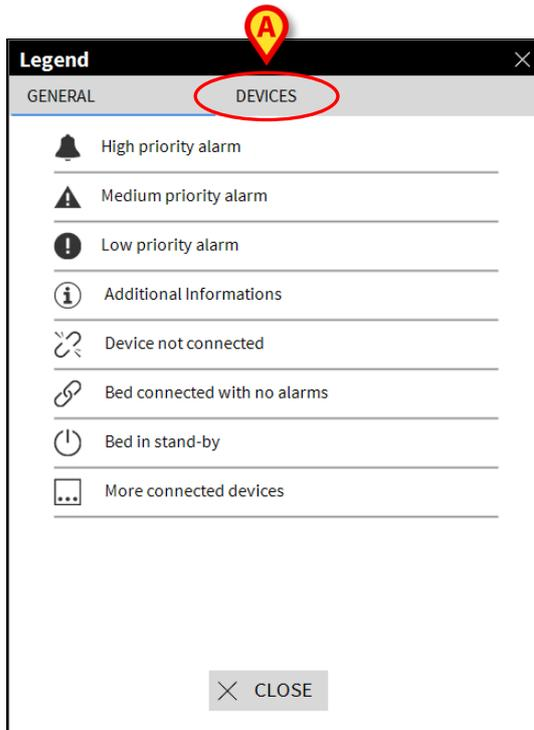

Fig 63
The following window is displayed (Fig 63).
The window lists the “General” icons that can appear in different contexts. Another list of icons, those indicating the connected devices, can be displayed by clicking the “DEVICES” button indicated in Fig 63 **A**.
- Click the **Devices** button indicated in Fig 63 **A**